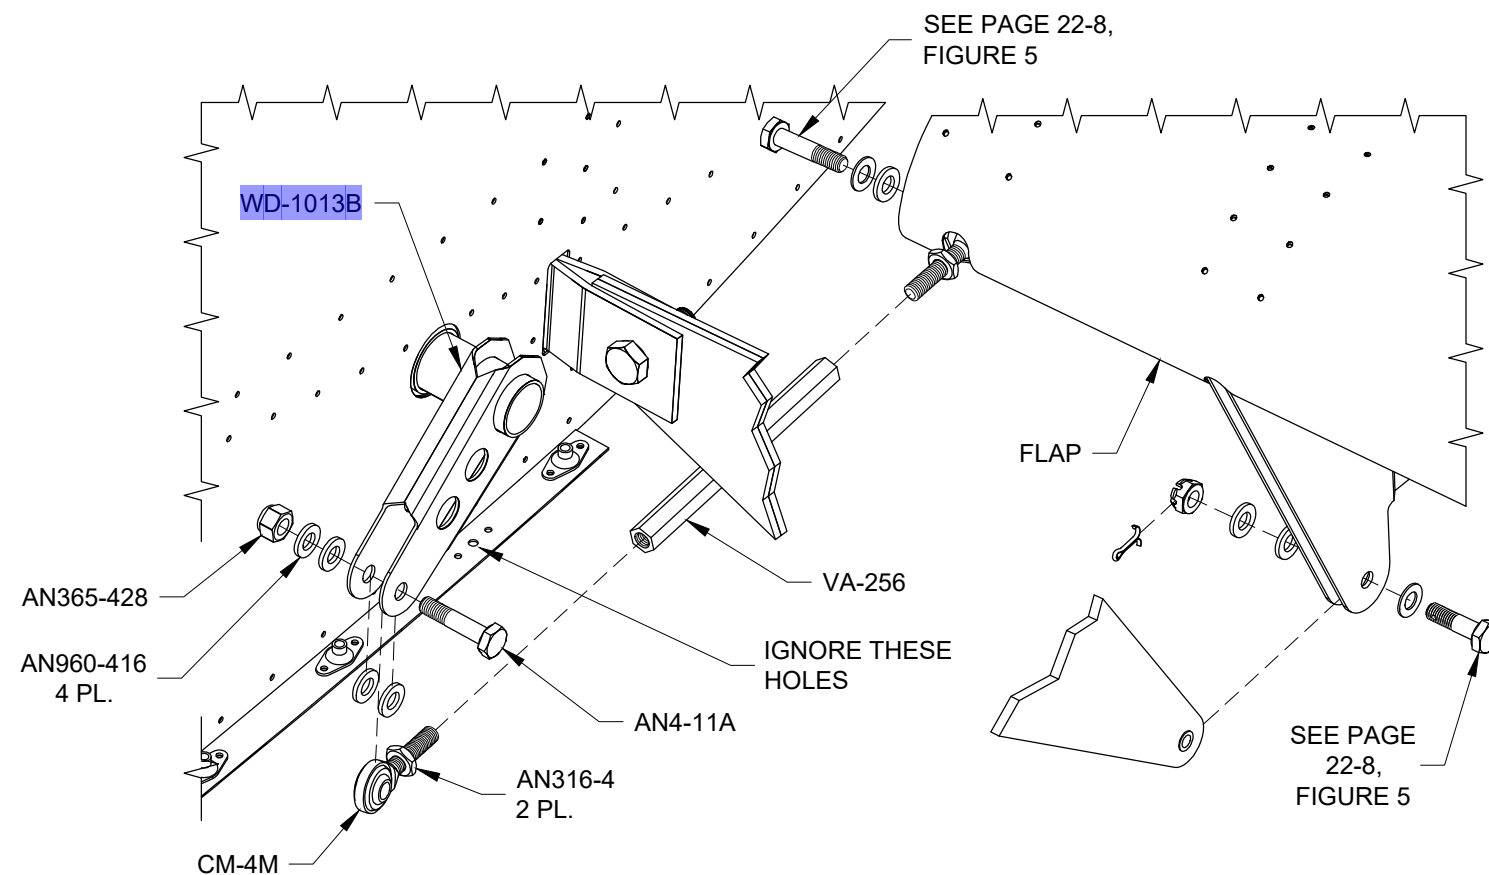

FIGURE 2: EXPLODED VIEW
Step 3: With the flaps not yet installed on the wing, fully extend (flaps up position) the flap motor shaft. If not already in place install the CM-4M rod end bearing into the flap as shown in Figure 2 and as per Page 22-8, Figure 5.
Install the VA-256 Flap Pushrod onto the rod end bearing mounted in the flap as shown in Figures 2 and 3.
Step 4: Install the flap onto the wing as per Figure 2. Trim the inboard edges of the flap skins if/as req'd to allow the flap to rotate into position and to create a 1/16 minimum gap between flap and fuselage.